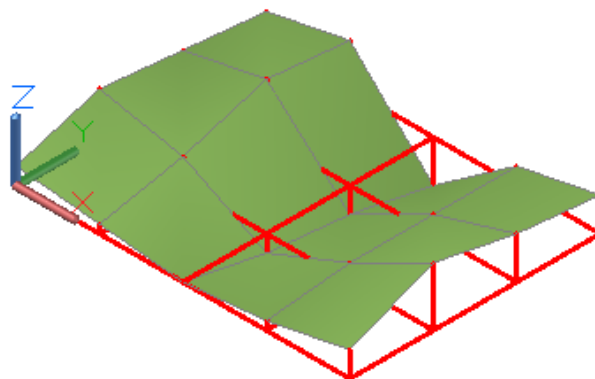

Figure Step 10
Step 10 Set the current visual style to: Realistic. Your model should appear similar to the figure. (Figure Step 10)